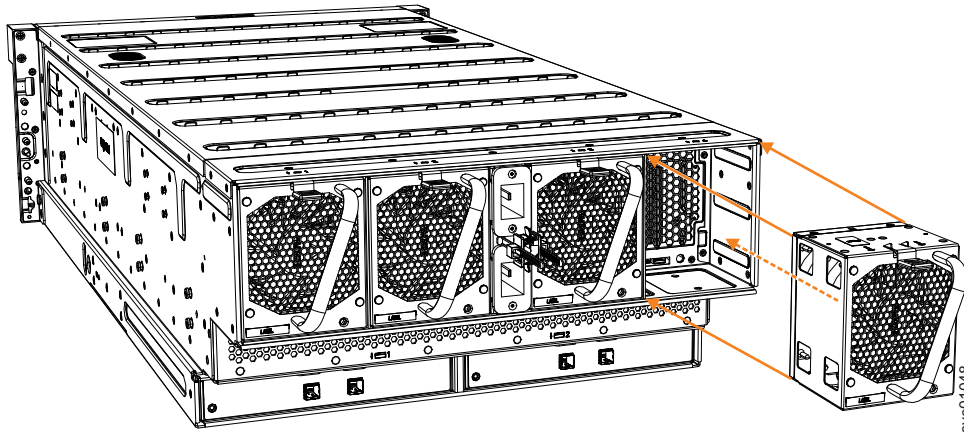

Figure 100. Remove fan module
3. Use the handle to pull the fan module out of the expansion enclosure chassis, as shown in Figure 100 on page 118.